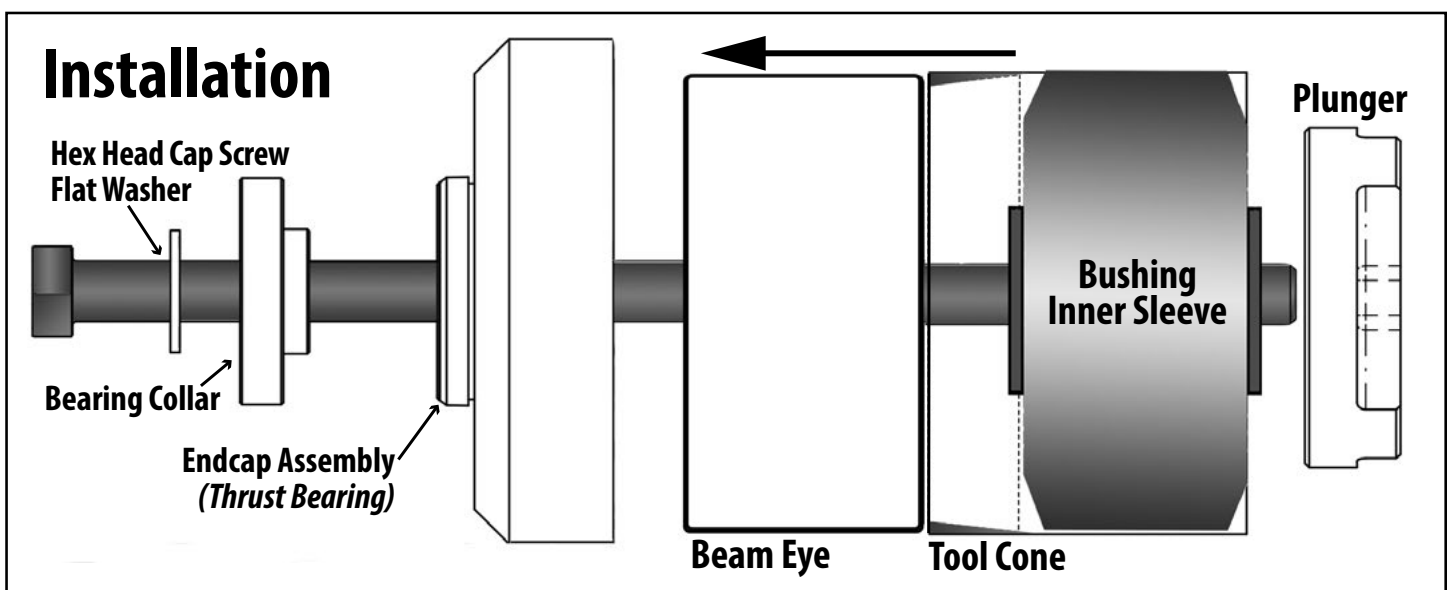

Figure 9.
4. Thread the plunger onto the hex-head cap screw until the tool cone is held firmly against the beam (Figure 9).